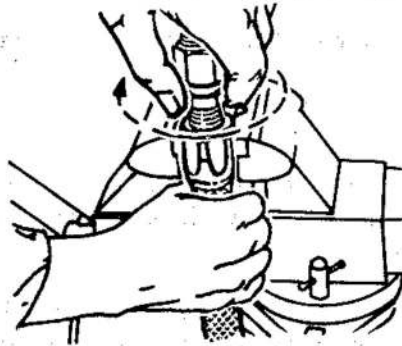

Fig 14 Engaging the nipple/socket threads
16.5 Carefully insert the tapered end of the nipple assembly through the socket and into the bore of the hose. Engage the nipple and socket threads while holding the hose in position by hand (fig 14).